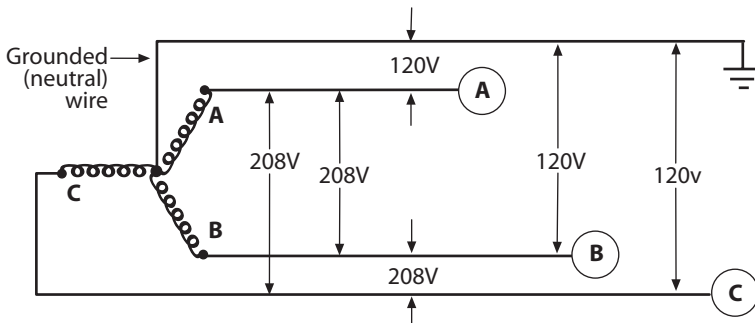
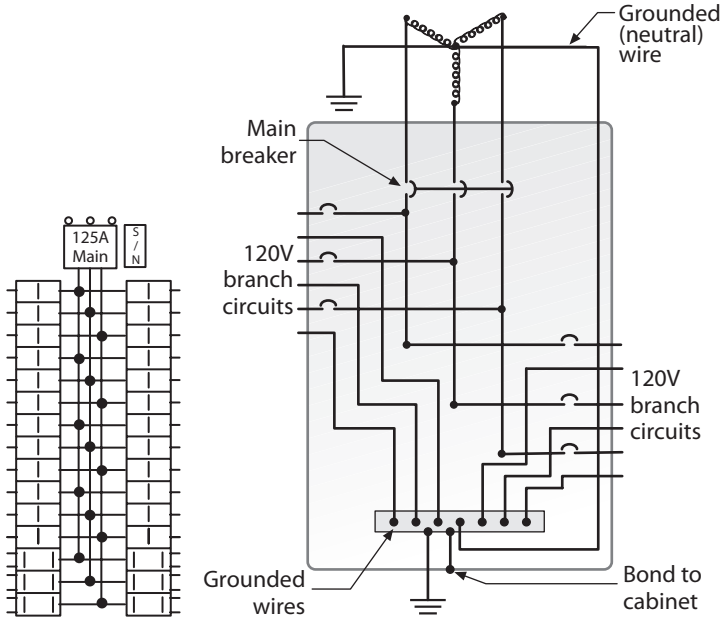
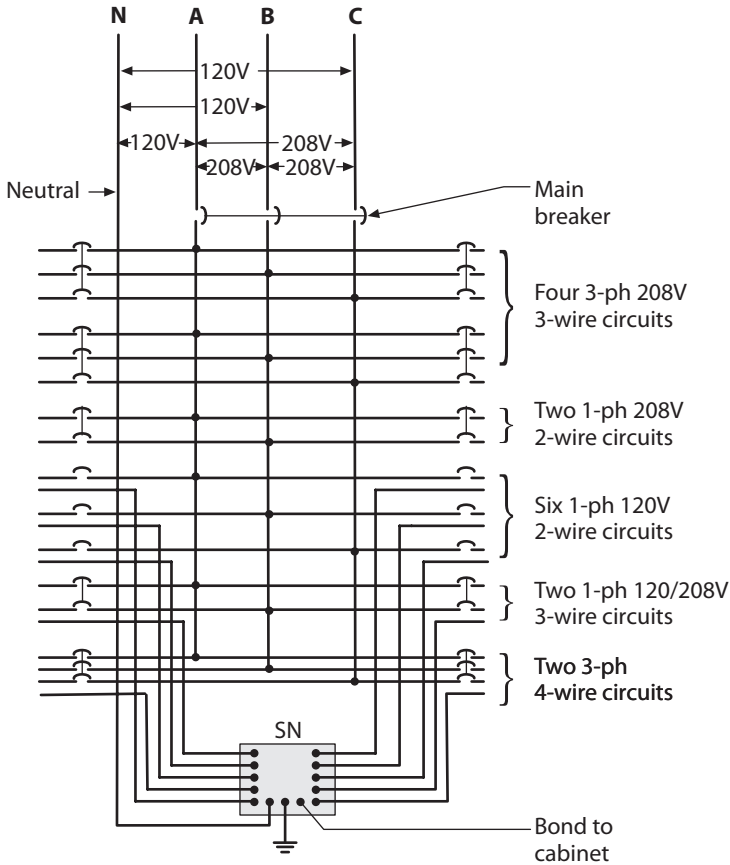

Fig. 28-5 A 208Y/120-volt system can supply both 120-volt, single-phase circuits and 208-volt, three-phase circuits at the same time.
Fig. 28-6 At left, diagram for a three-phase lighting panelboard; at right, a more pictorial diagram.
Fig. 28-7 This shows how a 208Y/120-volt system can supply five different kinds of circuits.
2. If the service is wye-connected, three-phase, four-wire, 208Y/120-volt, then 120-volt, single-phase, two-wire circuits are directly available by connecting to the neutral of the service and one of the phase wires, as shown in Fig. 28-5. In Fig. 28-6, the diagram at left is the sort usually supplied with such a three-phase panelboard; at right is a diagram that may be easier for beginners to understand. Figures 28-5 and 28-6 illustrate a three-phase service used only for 120-volt lighting, which is rarely the case. More often the three-phase service supplies both single- and three-phase circuits; then you would install one or more three-phase feeders from the service equipment to one or more three-phase panelboards used only for lighting. This is explained in more detail later in this chapter.
In Fig. 28-5, one of the wires is marked “grounded wire.” That wire while grounded remains a grounded wire; it also becomes a neutral because it is connected to a neutral point.
4. If the service is wye-connected, three-phase, four-wire, 480Y/277-volt, fluorescent lighting operating at 277 volts is usually installed. The wiring would be as shown in Figs. 28-5 and 28-6, except that each single-phase circuit would operate at 277 volts instead of 120 volts. Of course step-down
Circuit arrangements—208Y/120-volt systems Such systems can provide 120-volt, single-phase and 208-volt, three-phase circuits; either voltage alone, or both at the same time, as shown in Fig. 28-5. Figure 28-6 shows the system providing only 120-volt circuits for lighting. On the other hand, Fig. 28-7 shows